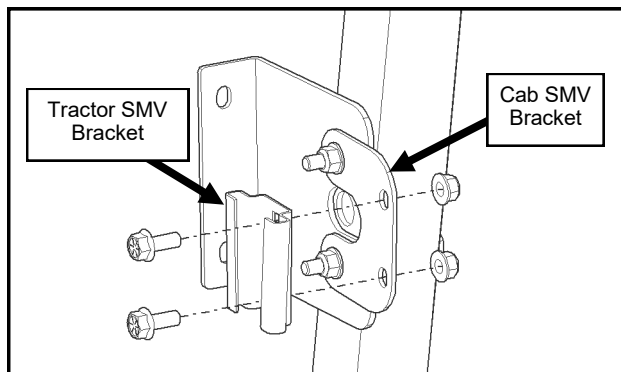

Fig. 2.3 (SMV Brackets)
- 2.3 **NON-BACKHOE TRACTORS:** Install the cab SMV bracket on the outside of the ROPS bracket on the left side of the cab, under the nuts. Install the tractor SMV bracket removed in step 1 to the cab bracket with new hardware provided. See fig. 2.3.